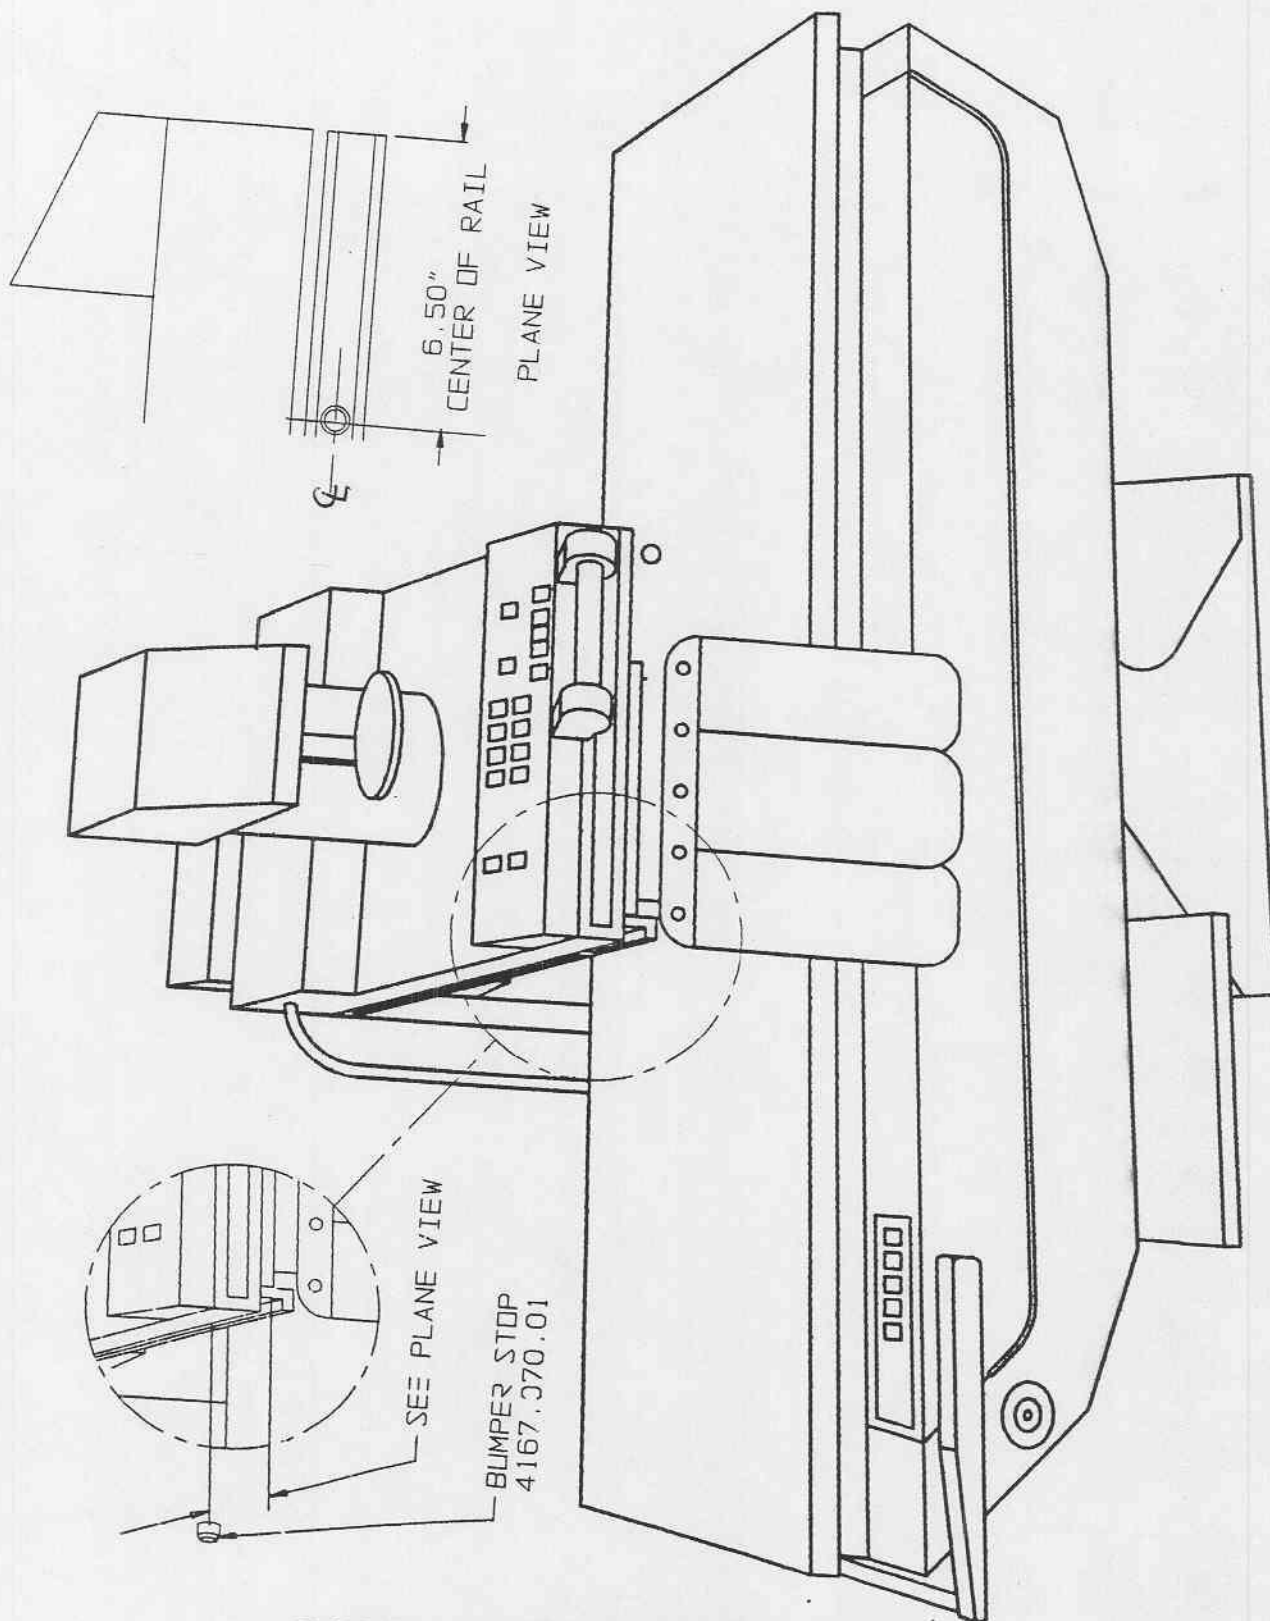

FIGURE 1 BUMPER STOP INSTALLATION
The Bumper Stop in certain Spot Film Devices (SFD) was not installed. Check the SFD for the Bumper Stop per **FIGURE 1**. If it is not installed perform the following:
1. Drill a hole for a 8-32 tap at the location specified in **FIGURE 1** (6.5" from the rail end, centered in its width).